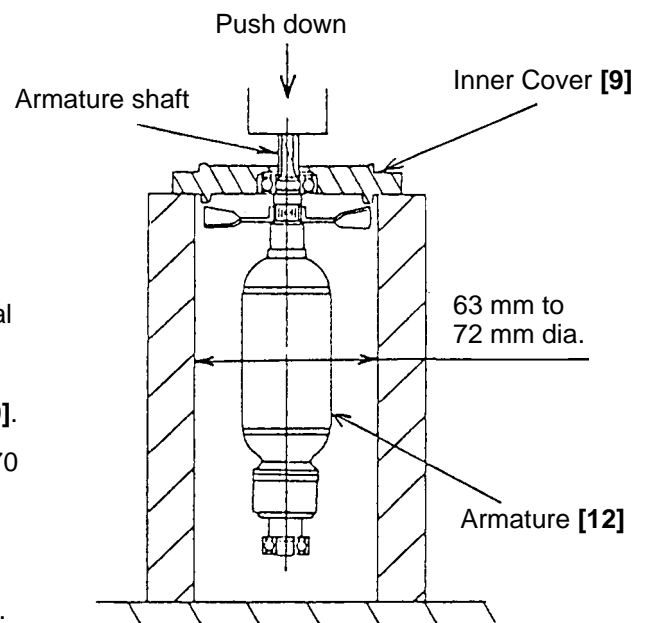

Fig. 7
- ① Loosen the Brush Caps **[39]** and take out the Carbon Brushes **[40]**.
- ② Loosen the four Tapping Screws D5 x 30 **[1]**, remove the Gear Cover **[2]**, and take out the Armature **[12]** together with the Inner Cover **[9]** in a single body from the Housing Ass'y **[30]**.
- ③ As illustrated in Fig. 7, support the Inner Cover **[9]** with an appropriate tubular jig (inner diameter: 63 mm to 72 mm), and press down on the pinion portion of the armature shaft with a hand press to loosen and remove the Armature **[12]**.